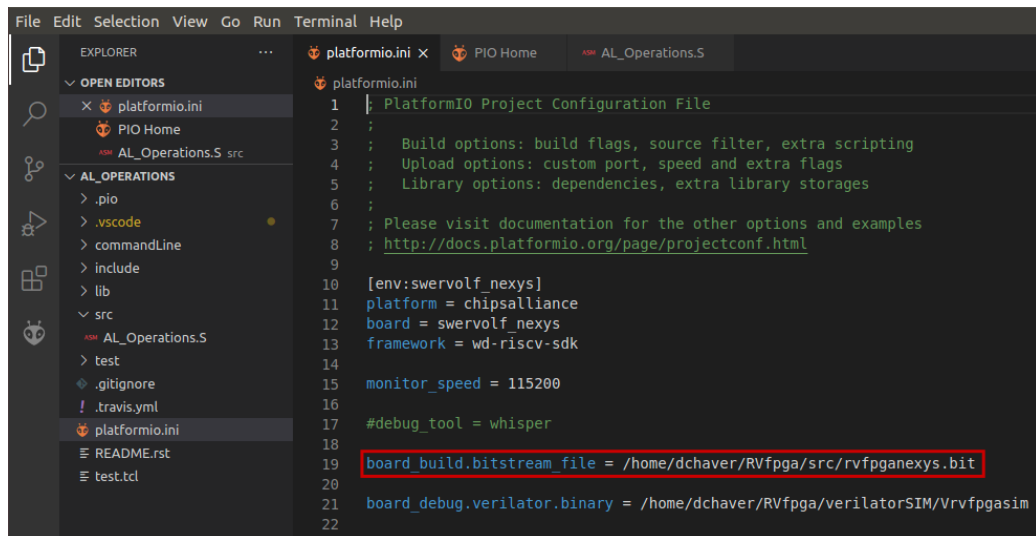

Figure 100. Platformio initialization file: platformio.ini
6. Open file *platformio.ini*, by clicking on *platformio.ini* in the left sidebar (see Figure 100). Establish the path to the RVfpgaEL2-Nexys bitstream in your system by editing the following line (see Figure 100). Note that a pre-synthesized bitstream of RVfpgaEL2-Nexys is provided at: *[RVfpgaEL2NexysVideoNODDRPath]/src/rvfpganexys.bit*